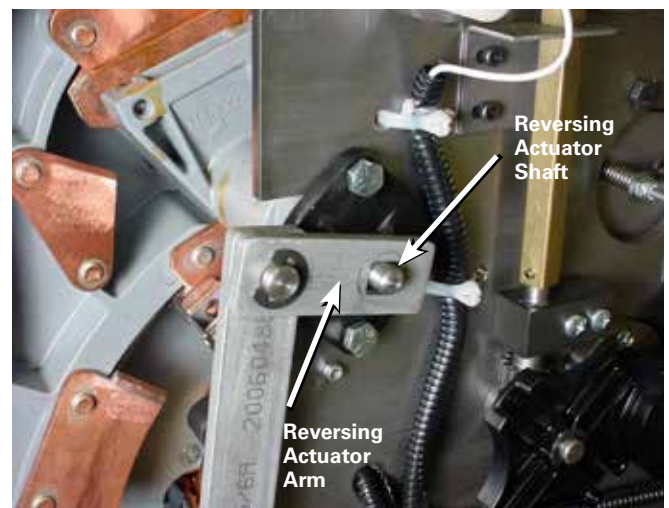

Figure 55. Reversing actuator arm removal.
2. Lift outward on the reversing actuator arm and remove it from the reversing movable contact bushing. The reversing actuator shaft may be tapped in to allow clearance to remove the arm. See Figures 55 and 56.